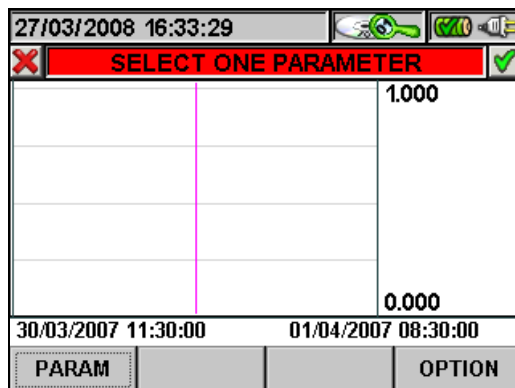

Fig. 98: Selecting a parameter
- The **ESC** key (or smart icon ) to exit the function and go back to the "Selecting a parameter" page (Fig. 98).
3. Press the **ESC** key (or the smart icon ) to exit the function and go back to the “Selecting a parameter” page (Fig. 98).